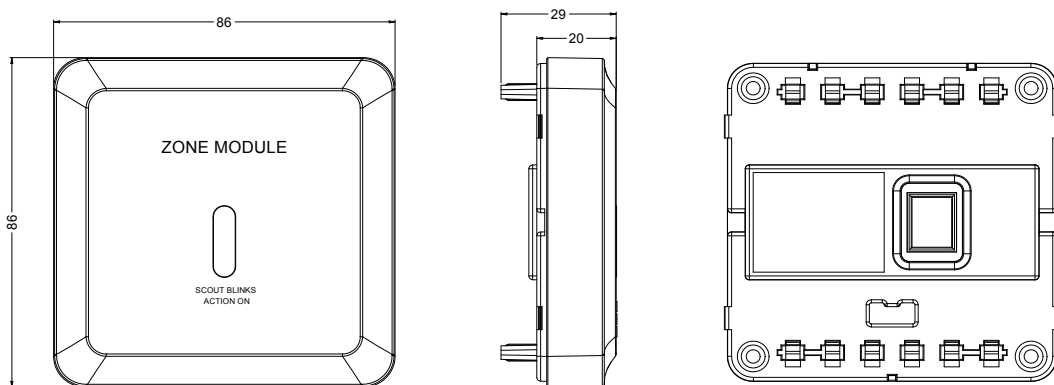

Fig.1 Main part of the AW-D310 Module (unit: mm)
- 2) Connect the 4-pin coding plug on the coder with the 4-pin coding socket (see Fig.1) on the main body of the AW-D310 module, and then set the coder with the coding function and compile the correct address code to finish the address coding.